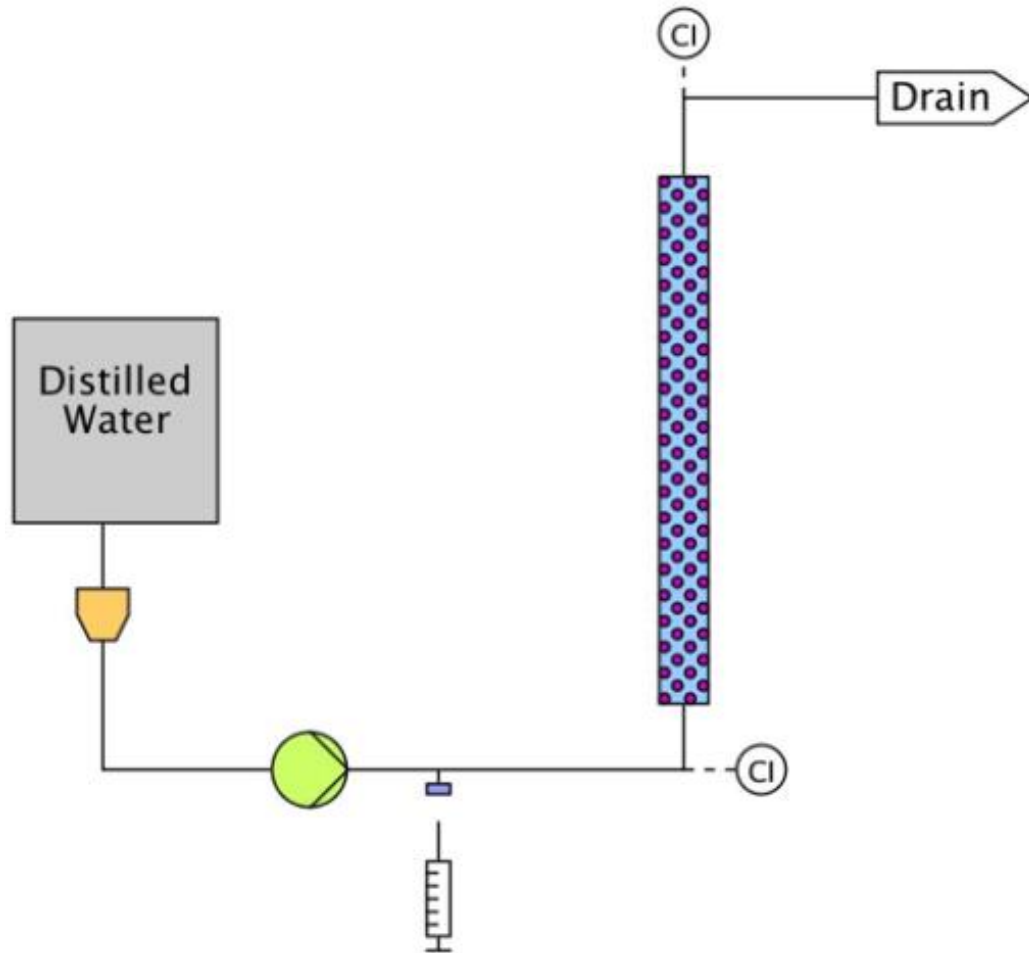

Figure 1 Experimental setup
Our experimental setup (Figure 1) consists of a water tank, a filter (orange), a pump (green), a septum for tracer injection (purple), a reactor with conductivity sensors (CI) at the inlet and outlet. You control the pumping rate from the computer, and the same program collects the conductivity data. A dye and a NaCl solution is used as tracers and it is a pulsed input experiment.